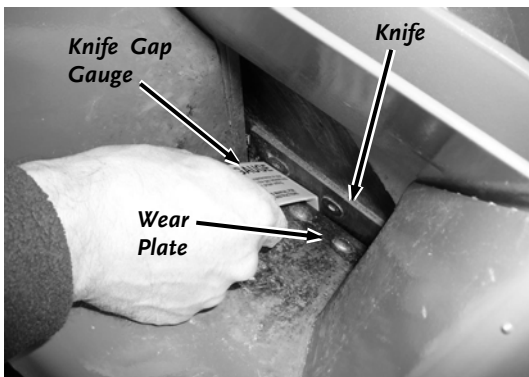

Figure 39
3. Slide the Knife Gauge in between the Knife and Wear Plate to check the clearance (**Figure 39**).